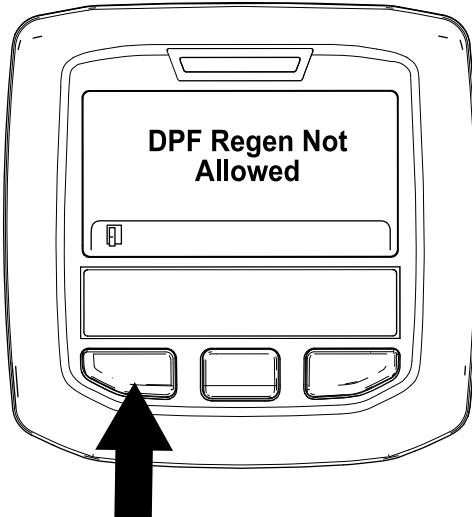

Figure 37
- If the regeneration process is not allowed by the engine computer, the “DPF Regen Not Allowed” message displays in the InfoCenter (Figure 37). Press the left button to exit to the home screen